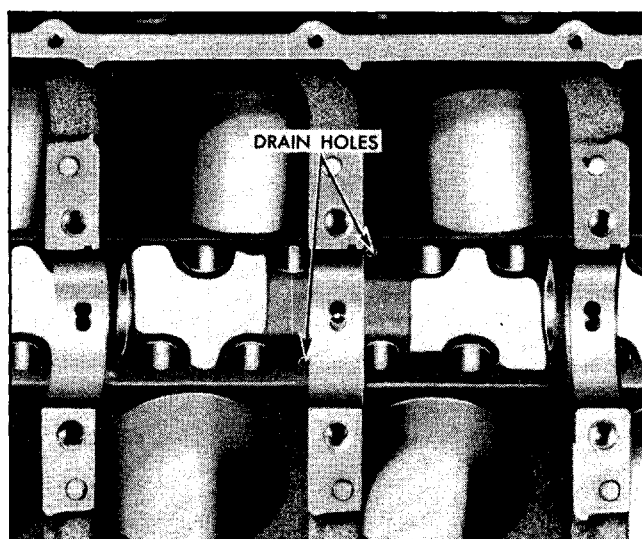

Fig. 6-56 Drain Holes Under Lower Crankcase Ventilator Baffle
h. Use wire to check two drain holes under lower crankcase ventilator baffle (Fig. 6-56).